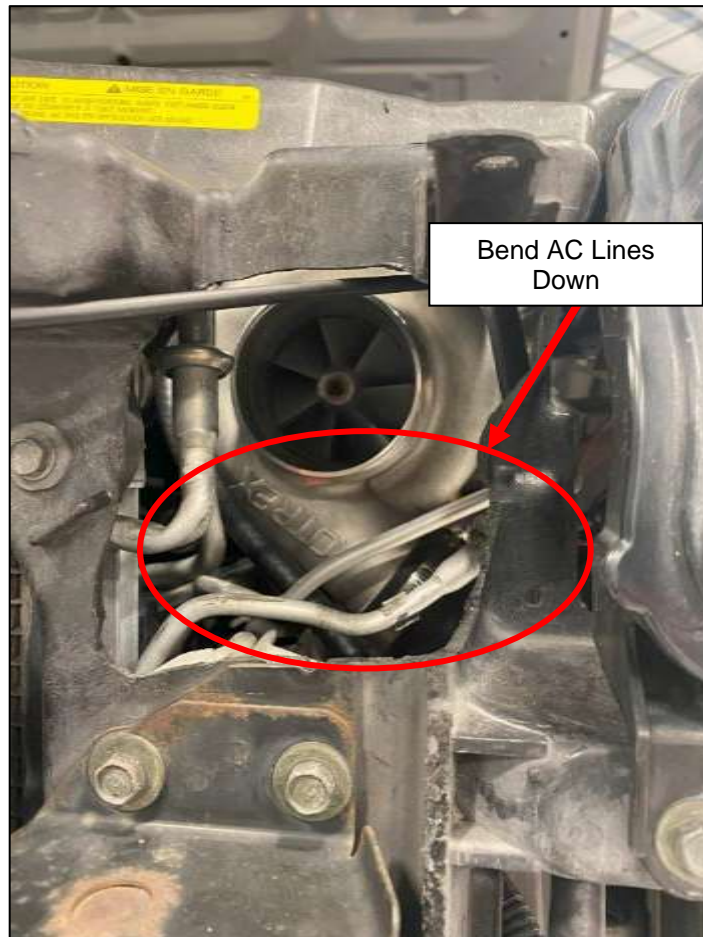

Figure 13
1. **G35 Owners:** The AC Lines on the Driver Side will need to be bent out of the way to clear the Intake Piping for the Supercharger. Carefully Grab and bend the Lines away from the opening in the Core Support to make room for the intake piping. They may have to be bent more later if there is not enough clearance for the Intake Piping. *Figure 13.*